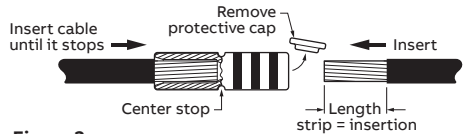

Figure 2
- Remove protective caps from the end of the splice barrels and insert cable into connector until it stops see Figure 2. The insertion length will approximate the stripped length of cable.